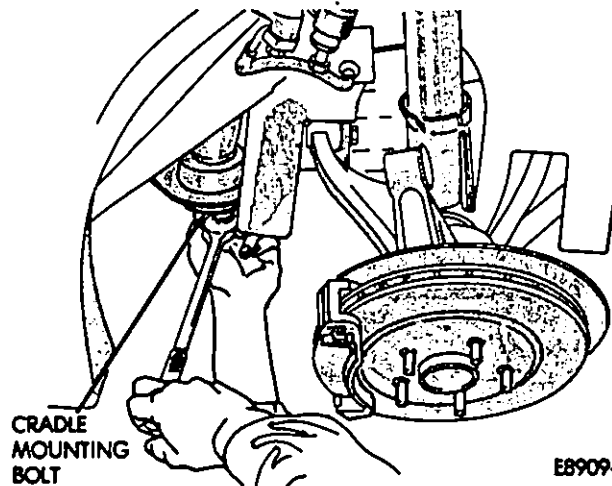
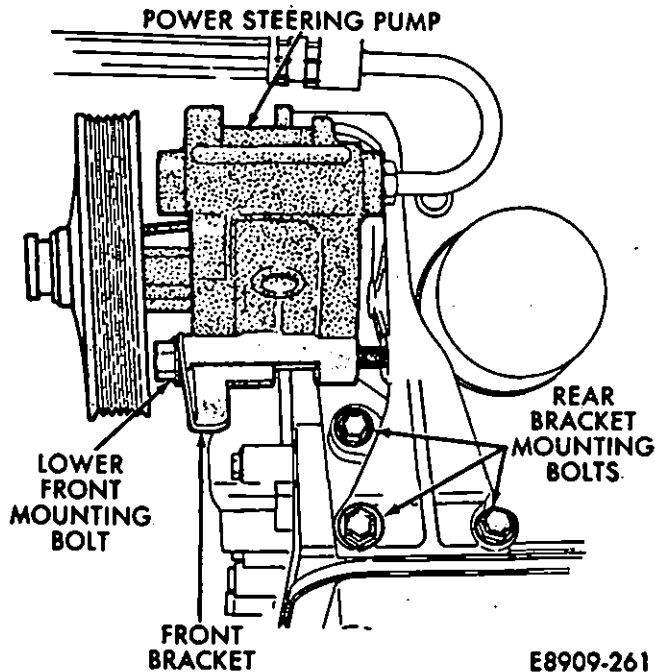

Fig. 25—Cradle Mounting Bolts
Fig. 26—Power Steering Pump
- (2) Lower the vehicle onto the cradle. Stop when the vehicle just touches the cradle bolt pads.
- (3) Install cradle mounting bolts (Fig. 25). The cradle bolt has a rubber spacer and metal washer. They must be installed with the rubber spacer between the body and the washer. Tighten the bolts to 125 N·m (92 ft-lbs) torque.
- (4) Raise the vehicle halfway.
- (5) Push the lower control arm down and re-connect the steering knuckle to the strut. Install the top bolt first. Then the lower bolt. The strut bolts are splined to the steering knuckles. Tighten the nuts, not the bolts. Tighten the nuts to 167 N·m (123 ft-lbs) torque.
- (6) Install the disk brake pads and calipers (refer to Group 5, Brakes, for the proper procedure).
- (7) Hold the hub in place and tighten the hub nuts to 245 N·m (181 ft-lbs) torque.
- (8) Raise the vehicle the rest of the way up.
- (9) Remove the dolly from the cradle. Remove the special bolts from the cradle.
- (10) Connect the catalytic converter to the Y-pipe.
- (11) Connect the electrical connector to the oxygen (O₂) sensor.
- (12) Connect the starter wires and the battery negative wire.
- (13) Position the power steering pump against the engine. Finger tighten the rear bracket mounting bolts (Fig. 26).